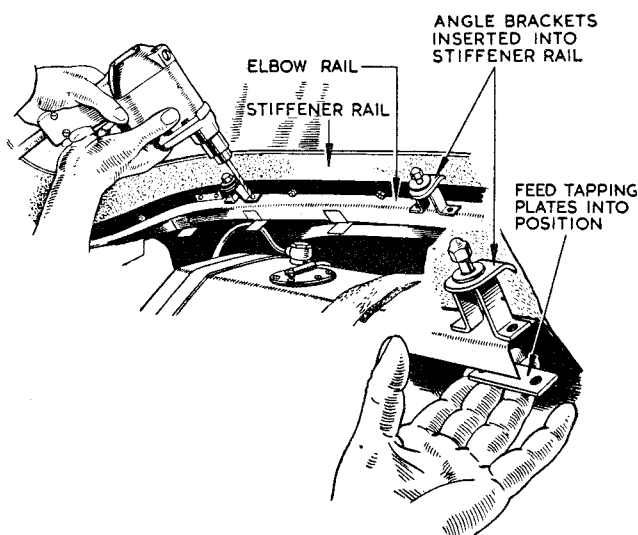

Fig. 4 Drilling the Elbow Rail and installing Bridge Pieces.
- (b) If not already fitted, insert the three shorter angle brackets through slots in the stiffener rail at the rear of the "Hard Top", and a longer angle bracket at each side. Using short flat headed screws and lockwashers, secure the brackets in position. (Fig. 4.)
- (a) Loosely secure the five bridge pieces to the angle brackets previously fitted in the rear stiffener rail. (Fig. 4.)
- (b) Reposition the "Hard Top" to the car and secure to the three windscreen attachment brackets. The bridge pieces will now be resting on the elbow rail channel. (Fig. 4.)
- (e) Remove the bridge pieces from the "Hard Top" and secure to the elbow rail channel, using flat headed screws which screw into tapping plates fed into position under the channel. (Fig. 4.)